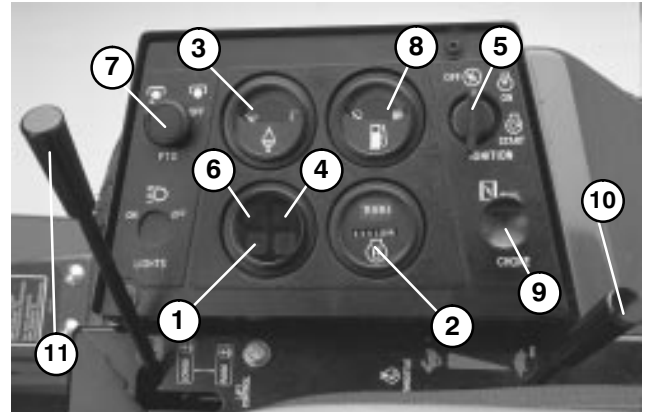

Figure 18
Amp Light (Fig. 18) — The amp light should be off when engine is running. If it is on, the charging system should be checked and repaired if necessary.
Hour Meter (Fig. 18) — Accumulated engine operating time registers on the hour meter.
Temperature Gauge and High Temperature Light (Fig. 18) — The coolant temperature gauge registers the coolant temperature in the system. If the temperature gets too high the engine will automatically shut off and the High Temperature Shutoff Light will light. When this happens, turn the ignition key off, check radiator for debris, check the fan belt and check the expansion tank for proper coolant level. The high temperature shutoff will automatically reset when the coolant temperature has reached a safe level.
Low Oil Pressure Light (Fig. 18) — If engine oil pressure falls below a safe level, the light glows. Stop engine and repair before resuming operation.
PTO Switch (Fig. 18) — Pull up on switch handle to ENGAGE electric PTO clutch. Push switch down to DISENGAGE electric PTO clutch. The only time the PTO switch should be in the ENGAGE position is when the implement is down in operating position and ready to begin operation.
Ignition Key Switch (Fig. 18) — The ignition switch, which is used to start and stop the engine, has three positions: OFF, RUN and START. Rotate key clockwise — START position — to engage starter motor. Release key when engine starts. The key will move automatically to the ON position. To shut engine off, rotate key counterclockwise to the OFF position.
Choke (Fig. 18) — To start engine, close carburetor choke by pulling choke control upward. After engine starts, regulate choke to keep engine running smoothly. As soon as possible, open the choke by pushing it inward. A warm engine requires little or no choking.
Throttle (Fig. 18) — Throttle is used to operate engine at various speeds. Moving throttle forward increases engine speed — FAST; rearward decreases engine speed — SLOW. The throttle controls the speed of the cutter blades and, in conjunction with traction pedal, controls ground speed of the traction unit.
Hydraulic Lift Lever (Fig. 18) — The hydraulic lift lever has three positions: FLOAT, TRANSPORT and RAISE. To lower cutting unit to the ground, move lift lever forward into notch in seat platform — FLOAT. The FLOAT position is used for mowing and when machine is not in operation. To raise cutting unit, pull lift lever rearward to the RAISE position. After cutting unit is raised, allow lift lever to move to the TRANSPORT position. Cutting unit must be raised when driving from one work area to another.
1. Ensure parking brake is set, PTO switch is in OFF position and lift lever is in TRANSPORT or FLOAT position (Fig. 18). Remove foot from traction pedal and insure it is in neutral.
2. Pull choke (Fig. 18) to full choke position and move throttle control (Fig. 18) to slow position.
3. Turn key in ignition switch to START position (Fig. 18). Release key immediately when engine starts and allow it to return to RUN position. Regulate choke to keep engine running smoothly.